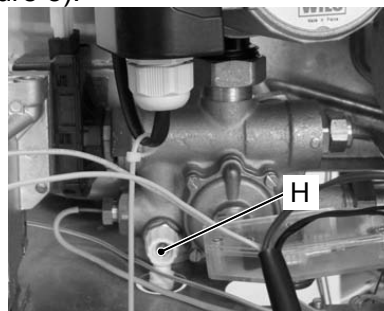

Figure 7
- 2) Open the c.h. drain cock H (Figure 7).